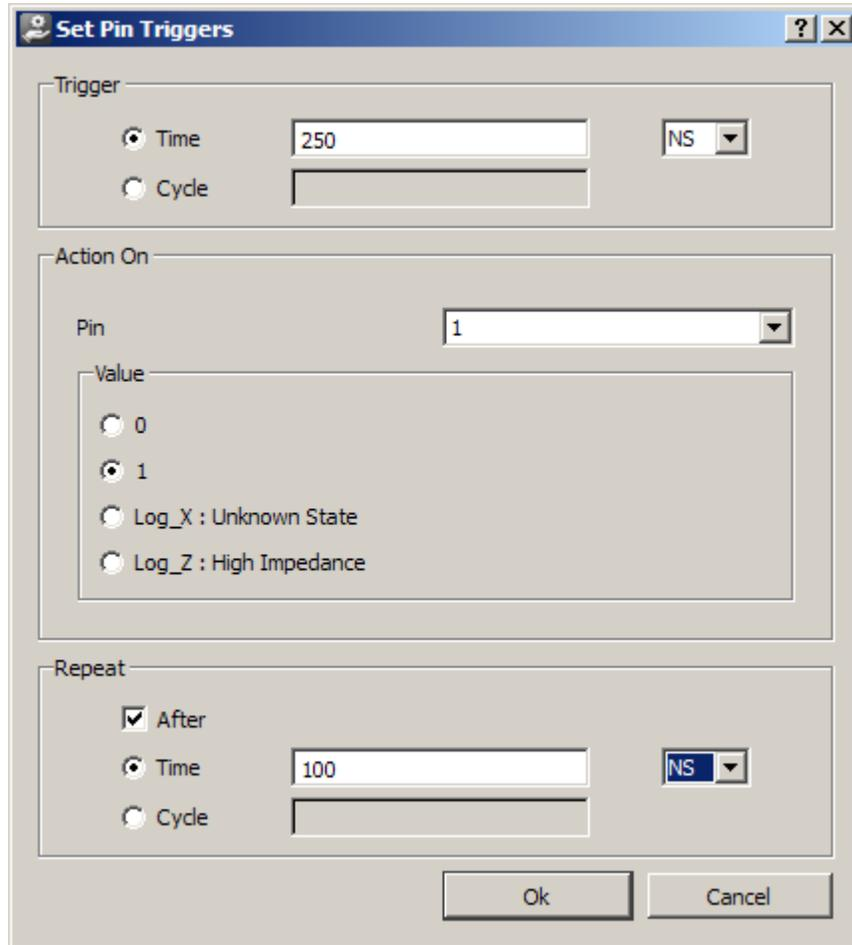

Figure 18. Pin Trigger to Drive Pin 1 High Periodically
- Press the "Add" button to add input stimulus. A Pin Trigger to drive pin 1 high has been set up, starting at 250 ns into the simulation and repeating every 100 ns. To accomplish this, configure the pin trigger dialog (see Figure 18). Pay close attention to the units; the time unit defaults to 'ps' so be sure to change it to 'ns' in both places. When you have configured this trigger, press OK.